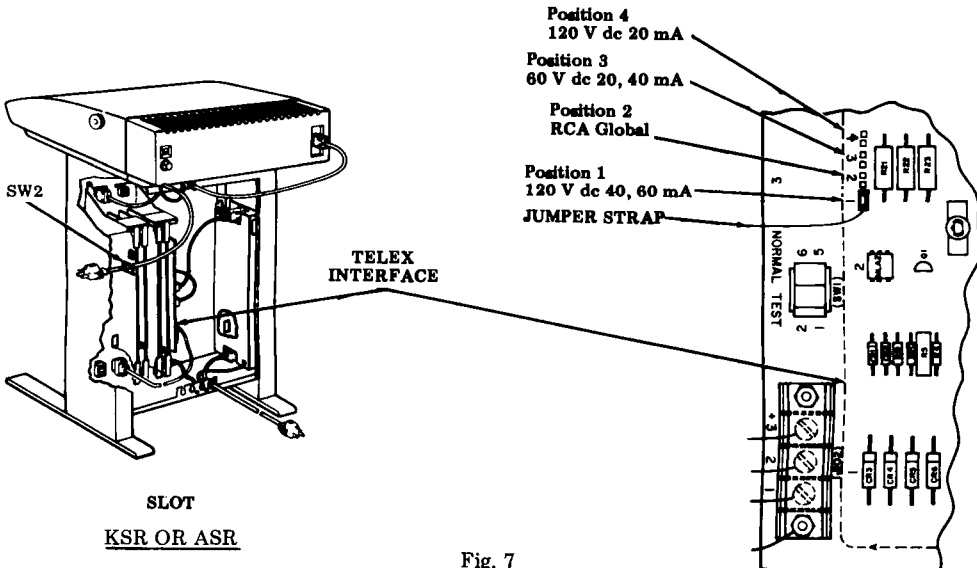

Fig. 7
3.08 Locate the jumper strap (Fig. 7) on the Telex interface card and place it in the applicable position (Fig. 7 and Fig. 9).
4.01 The options shown below are not programmable by the user except by specific request to the installer. To change these options, SW2 on the 410705 circuit card must be depressed and rotated 1/4-turn clockwise. See Fig. 7. Once SW2 is depressed, the options shown below will be appended to the end of the user programmable option list. To change the value of these options, see OPTIONS in the How To Operate Manual 423.